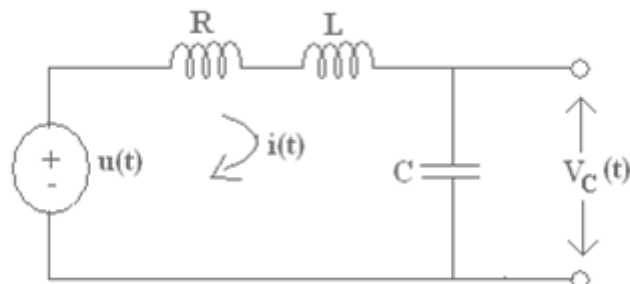

Figure 4:
- (b) Consider the RLC network is shown in figure 4. Write the state variable representation. [8+8]